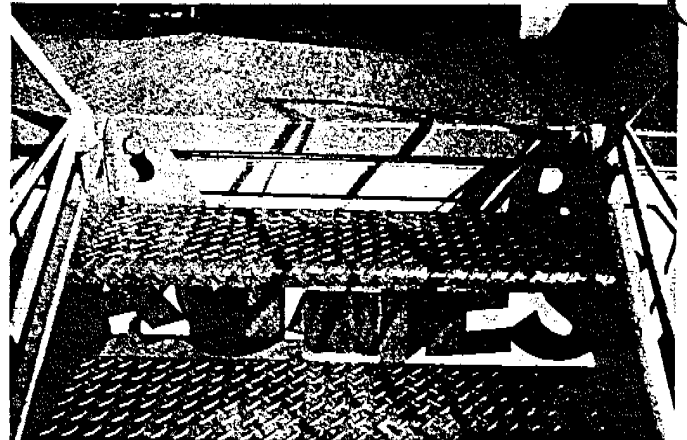

Fig. 30
- b. Install the steps on the platform. (Fig. 30)